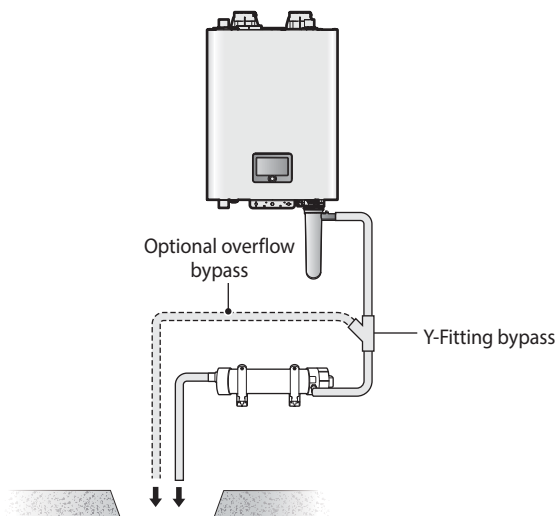

Figure 1. Neutralizer Installation Example
- When mounting on the wall or floor, the neutralizer must be installed in a **horizontal** position as shown in Figure 1 below.